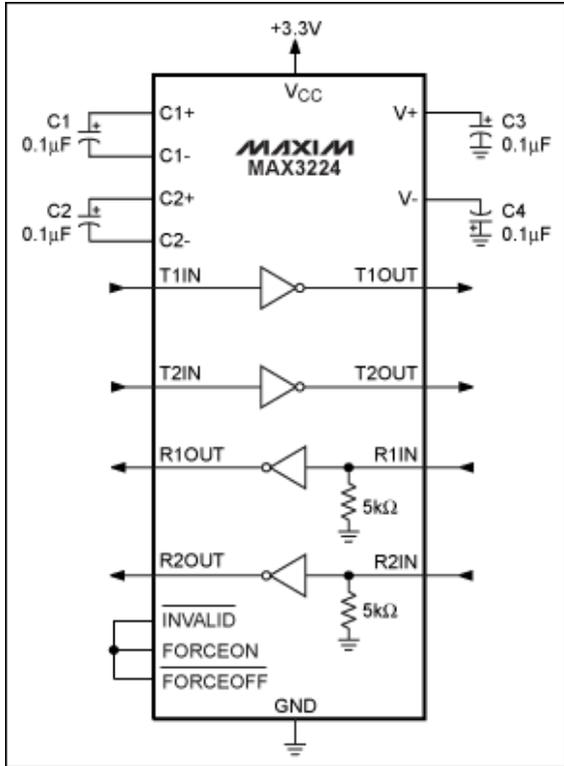

Figure 11. By connecting the ForceOn and ForceOff inputs to the Invalid outputs, an AutoShutdown Plus part can be made to behave like an AutoShutdown part.
2. It can be made to behave like AutoShutdown if the Invalid line is tied to both ForceOn and ForceOff. See Figure 11.